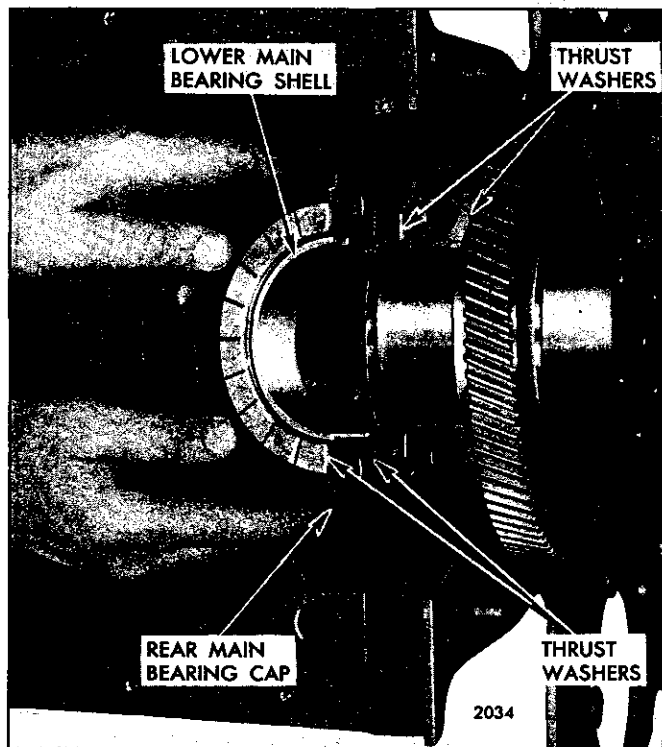

Fig. 9 – Crankshaft Thrust Washers in Place
Inspect the crankshaft thrust washers (Fig. 9). If the washers are scored or worn excessively or the crankshaft end play is excessive, they must be replaced. Improper clutch adjustment can contribute to excessive wear on the thrust washers. Inspect the crankshaft thrust surfaces. Refer to *Install Crankshaft* in Section 1.3. If, after dressing or regrounding the thrust surfaces, new standard size thrust washers do not hold the crankshaft end play within the specified limits, it may be necessary to install oversize thrust washers on one or both sides of the rear main bearing. A new standard size thrust washer is .1190" to .1220" thick. Thrust washers are available in .005" and .010" oversize.
3. Assemble the crankshaft thrust washers before installing the rear main bearing cap (Fig. 9). Clean both halves of each thrust washer carefully and remove any burrs from the washer seats — the slightest burr or particle of dirt may decrease the clearance between the washers and the crankshaft beyond the specified limit. Slide the upper halves of the thrust washers into place. Then, assemble the lower halves over the dowel pins in the bearing cap. The main bearing caps are bored in position and stamped 1, 2, 3, etc. They must be installed in their *original* positions with the marked side of each cap facing the same side of the cylinder block that carried the engine serial number.